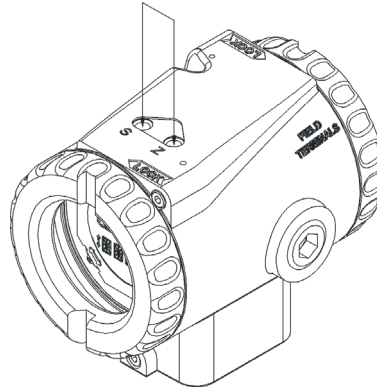

Figure 5.2 – Zero and Span Local Adjustment
Under the identification plate, the transmitter has two orifices where the magnetic tool is inserted to set the Local Adjustment. See Figure 5.2.
- Insert the magnetic tool in the ZERO adjustment hole. (See Figure 5.2);